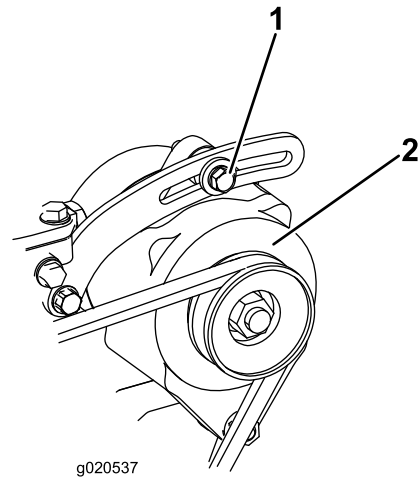

Figure 141
1. If the deflection is not 10 mm (3/8 inch), loosen the alternator mounting bolts (Figure 141).